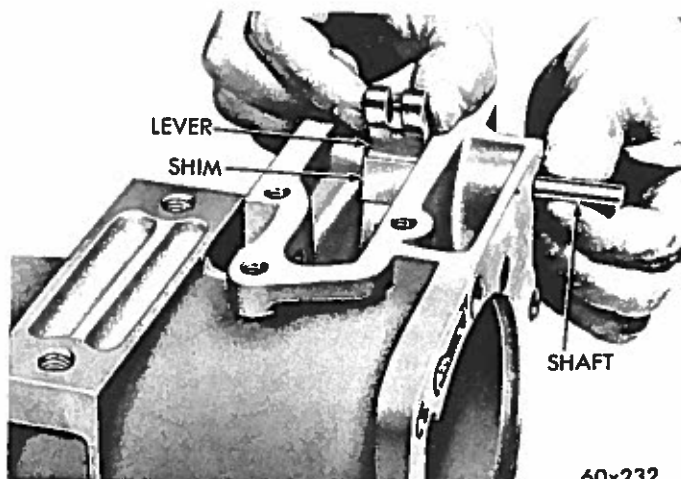

Fig. 37—Removing or Installing Parking Lock Lever
- (5) Remove plug from extension housing and slide out shaft to remove the parking lock lever and shim (Fig. 37).
- (2) Position the lock lever and shim in the housing and install the lever shaft (Fig. 37). The lever roller must be on top of the pawl so as to push it into engagement with the sprag. Tighten the plug to 150 inch-pounds torque.